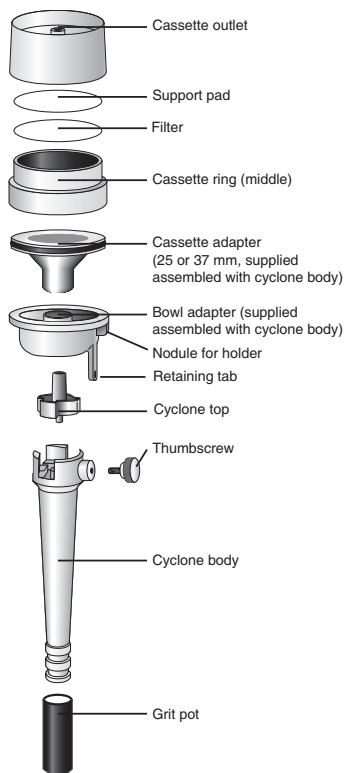

Figure 1
Assembly (Figure 1)
1. Prepare a cyclone/cassette assembly (see Figure 1). Ensure grit pot remains on cyclone body during calibration.